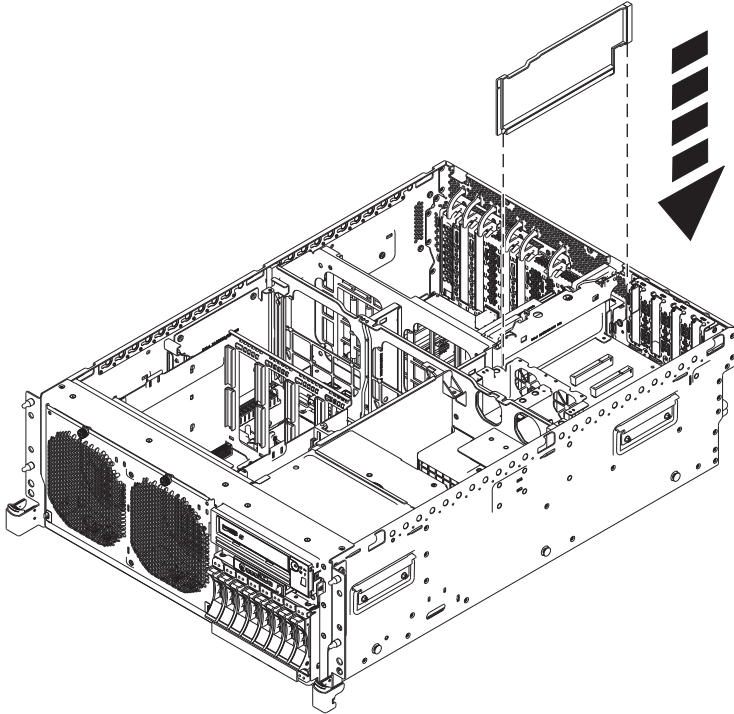

Figure 20. Replacing the PCI riser air divider
- a. Lower the PCI-riser air divider and press it into place. See Figure 20 on page 23.